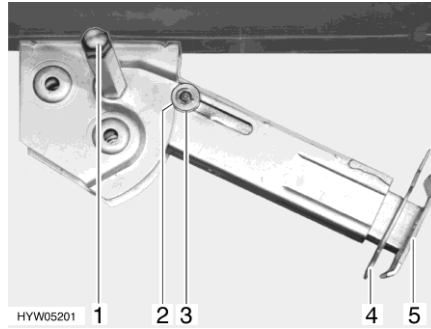

Fig. 15 Steady leg
- Place the socket spanner on the hexagon nut (Fig. 15,1) and rotate until the steady leg is in a perpendicular downward position.
- Remove the splint (Fig. 15,4) out of the support foot extension (Fig. 15,5).
- Place the socket spanner on the hexagon nut (Fig. 15,1) and rotate until the steady leg is clear of the ground.
- Push in the support foot extension (Fig. 15,5) and insert the splint (Fig. 15,4) in the drilled hole in the support foot extension.
- Rotate the hexagonal nut (Fig. 15,1) with the socket spanner until the steady leg has swung upwards and the guide disc (Fig. 15,3) has completely retracted into the notch (Fig. 15,2).